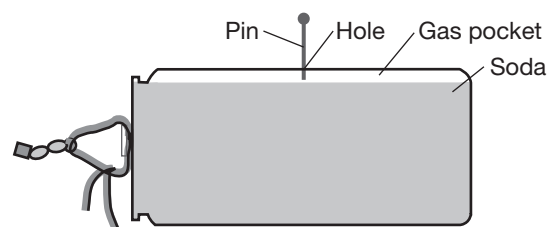

Figure 2.
3. This step can get messy and should be done near a sink or even outdoors! Remove the soda can from the swivel and lay the soda can on its side. Push a pin in the side of the can about half-way up, and then withdraw the pin (see Figure 2).